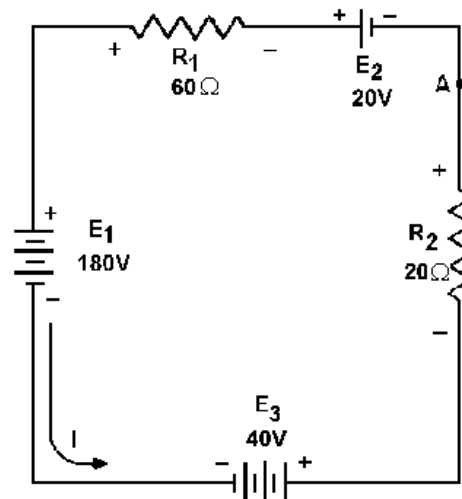

Figure 3-27.—Solving for circuit current using Kirchhoff's voltage equation.
Example: Using Kirchhoff's voltage equation, find the amount of current in the circuit shown in fig 3-27.
- Q23. Refer to figure 3-27, if  $R_1$  was changed to a 40-ohm resistor, what would be the value of circuit current ( $I_T$ )?
- Q24. Refer to figure 3-27. What is the effective source voltage of the circuit using the 40-ohm resistor?